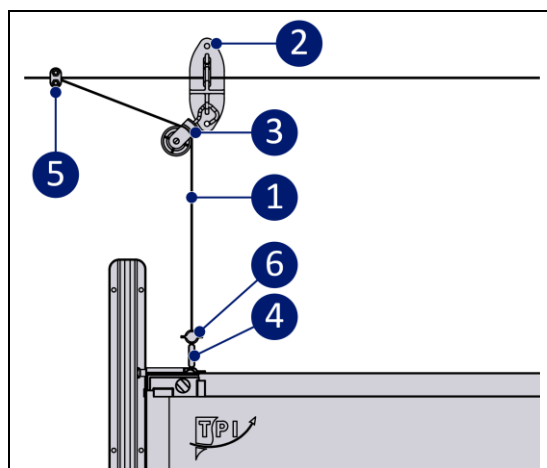

Figure 4-7: Operating lay-out.
2. Place the hanging pulleys (TPI-408) (Figure 4-7, pos. 3) on the main cable support (TPI-519) (Figure 4-7, pos. 2).
3. Place the carabine hooks (carabine hook) (Figure 4-7, pos. 4) on the door.
4. Secure the rope (TPI-511-0015) (Figure 4-7, pos. 1) with the help of a cable clamp synthetic (TPI-621) (Figure 4-7, pos. 6) to the carabine hook.
5. Secure the rope to the cable/rod or wire with the U-shape clamp (TPI-619) (Figure 4-7, pos. 5).